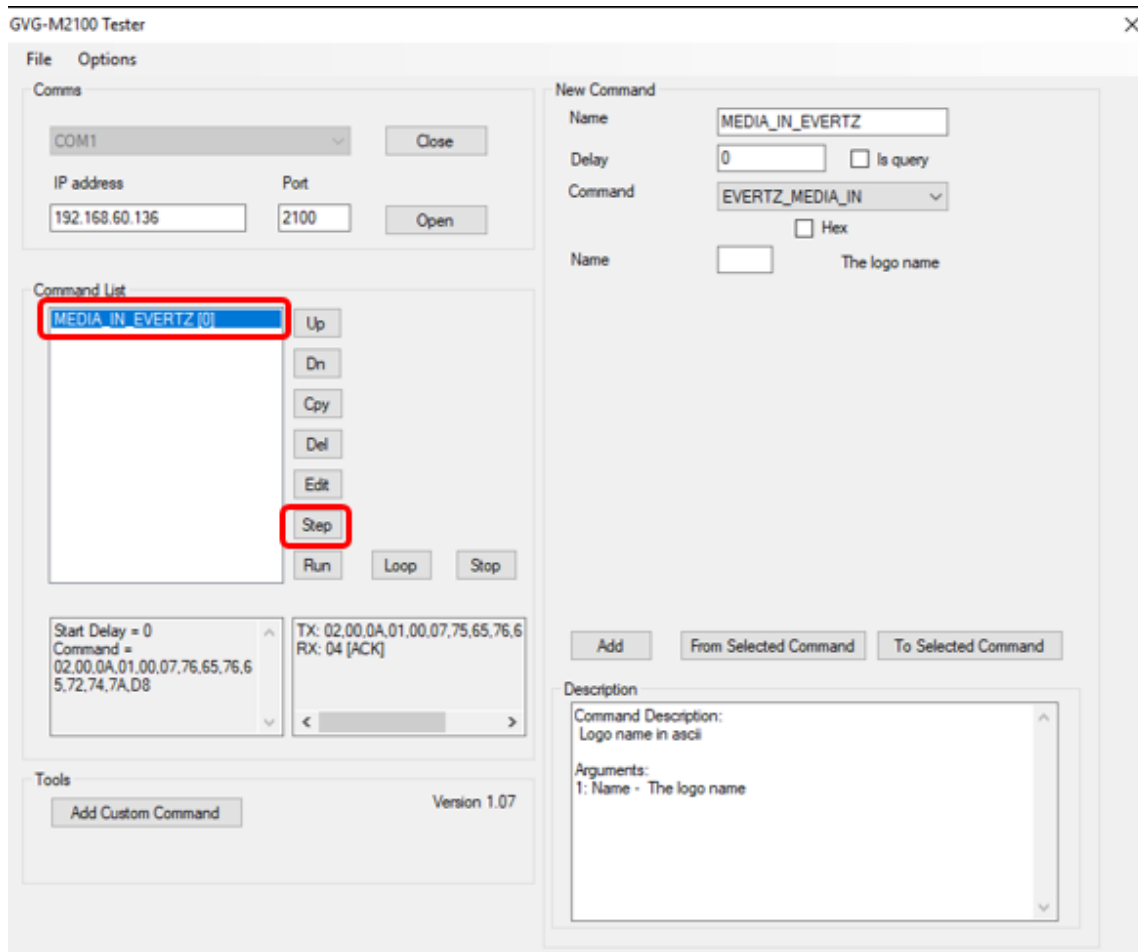

Figure 5-10: M2100 – Add Command to Display Logo Through All Outputs
- 2) Select 'EVERTZ_MEDIA_IN' in the 'Command List' and press 'Step' button to activate the logo, as Figure 5-10.